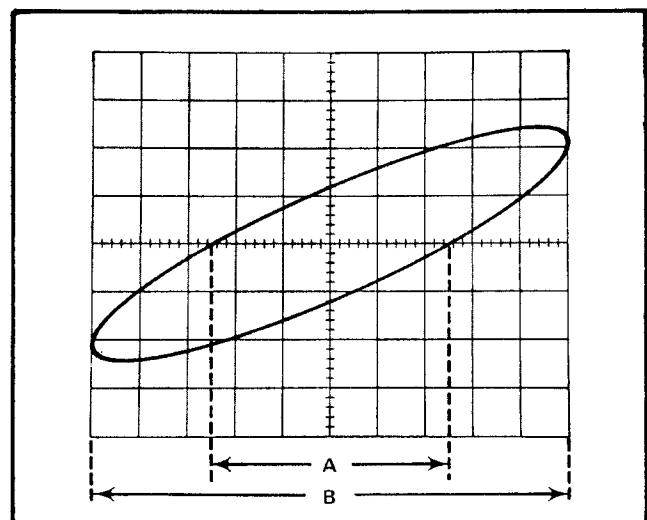

Fig. 2-29. Phase-difference measurement from an X-Y display.
4. Center the display in relation to the center graticule lines. Measure the distance A and B as shown in Fig. 2-29. Distance A is the horizontal measurement between the two points where the trace crosses the center horizontal line. Distance B is the maximum horizontal width of the display.
**Example.** To measure the phase of the display shown in Fig. 2-29 where A is 5 divisions and B is 10 divisions, use the formula: